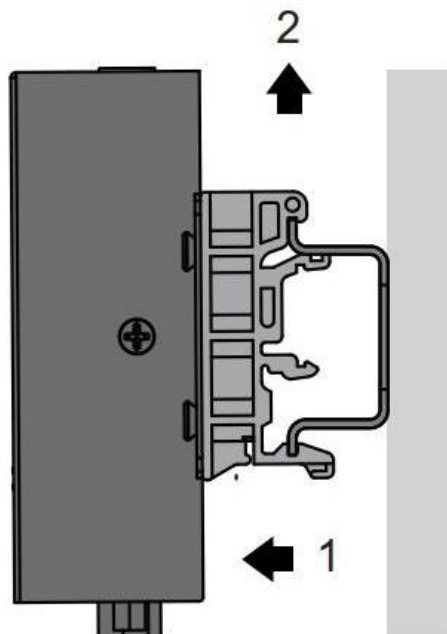

Fig.5 Remove the DIN-Rail
- Proceed to Fig.5 if you want to remove the device from DIN-Rail. Push down on the top of the DIN rail clip release tab with your finger. As the clip releases, lift the bottom of the device, as shown in the following illustration.